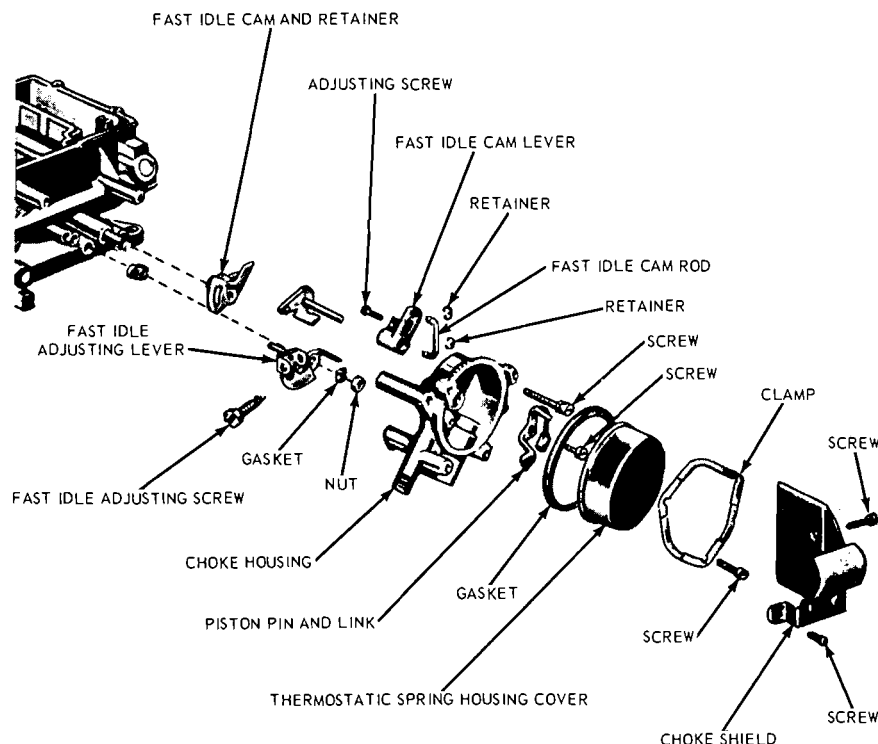
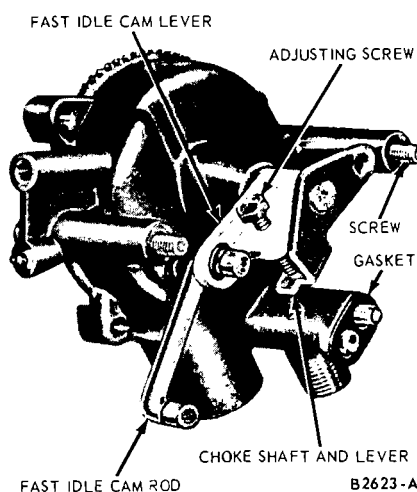

FIG. 25—Choke Housing Assembly
FIG. 26—Choke Linkage Installation
was disassembled, install the choke piston on the choke thermostatic spring lever link and install the retaining pin (Fig. 25).
2. Position the fast idle cam lever on the thermostatic choke shaft and lever assembly (Figs. 25 and 26). **The bottom of the fast idle lever adjusting screw must rest against the tang on the choke shaft lever.** Insert the choke shaft assembly into the rear of the choke housing. Position the choke shaft lever so that the hole in the lever is to the left side of the choke housing (Fig. 26).
4. Install the fast idle cam rod on the fast idle cam lever (Fig. 26). Place the fast idle cam on the fast idle cam rod and install the retainer.